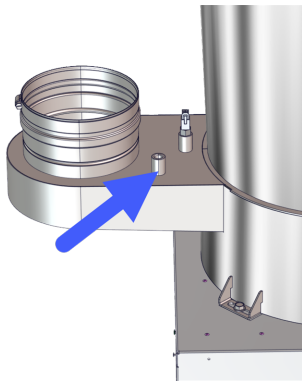

Figure 42 Flue gas test port
1. After the boiler is lit and is at high fire, insert the combustion analyzer test probe into the flue gas test port (see Figure 42). Then adjust the high fire (gas-air ratio) adjustment with a small slot screwdriver according to Table 10 values. This adjustment screw is very sensitive and will only need very small adjustments to fine tune the gas valve. Turn counter-clockwise (in the direction of the '+' sign) to raise the CO₂% (to richen). Turn clockwise to lower CO₂%.